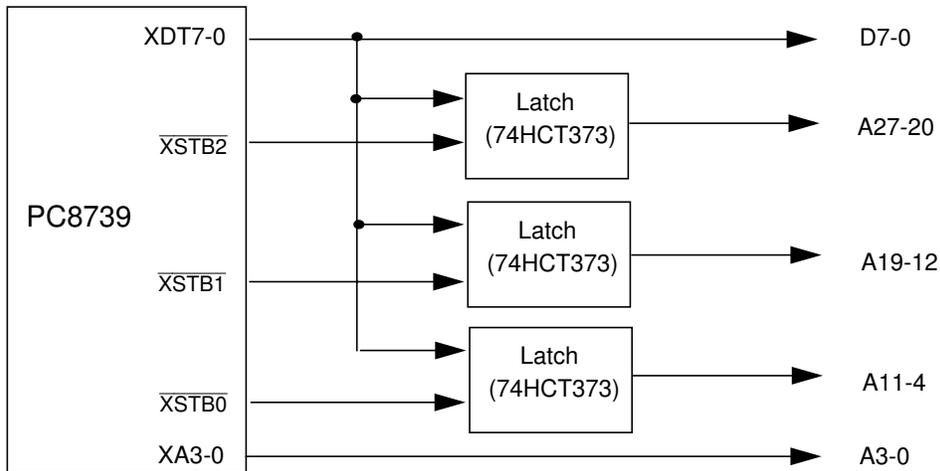

Figure 29. Latched Mode X-Bus Transactions External Logic
3. Address multiplexing on XDT7-0 and the $\overline{\text{XSTB2-0}}$ is designed for glueless interface with off-chip latch components. See the example using 74HCT373 latches in Figure 29.